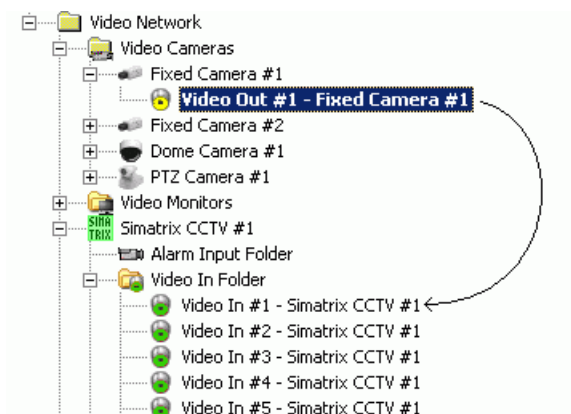

Fig 14 Connecting cameras to SIMATRIX
5. Drag and drop the ‘video signal’ to the SIMATRIX video-in node (Fig 14).